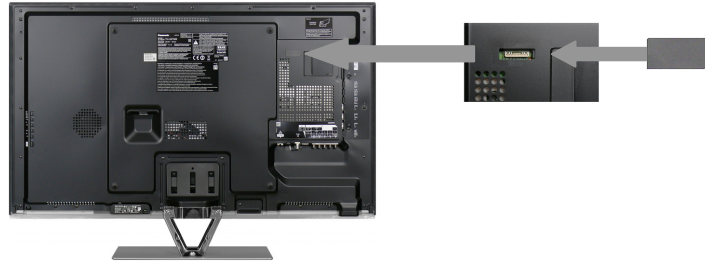

Fig. 1
4. Always ensure cover label TBM4GU113 is correctly replaced before returning to customer (see Fig.1).